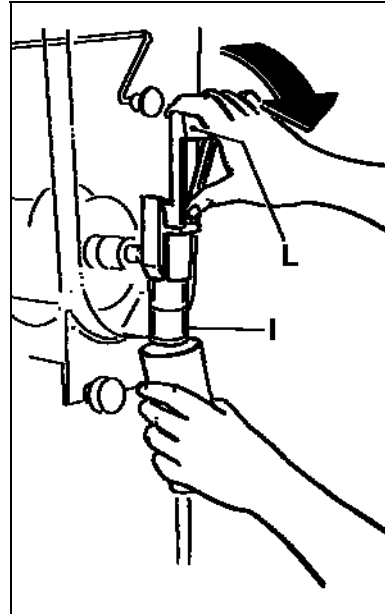

Fig. 8
a) To dispense the product, position the cup under the tap and pull the dispensing lever (see figure 8).